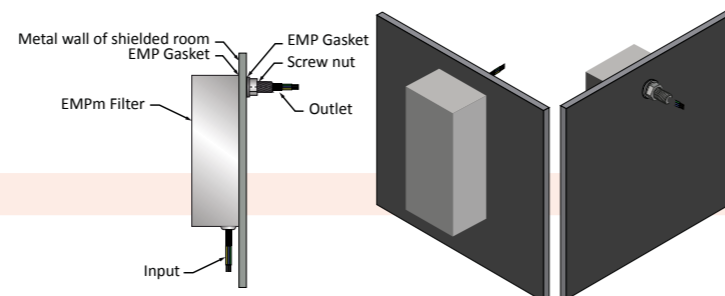

Figure 64 : Example of a power line filter mounted on a Faraday cage wall
- 64 Filters for power, signals and data.** A power line coming from the grid function as an antenna of immense length and brings many unwanted frequencies with it. It has to be "cleaned" by a filter before entering the shielded room. The same goes for signal lines and pipes going into the housing. They will work as an antenna and interfere with the shielding. (Fig. 64)